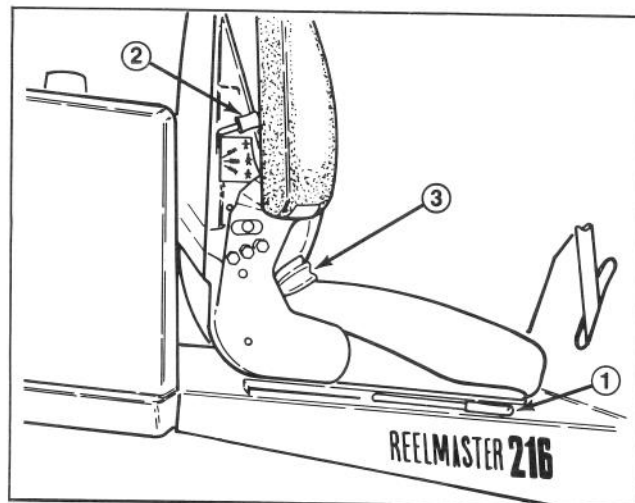

Figure 26
**Deluxe Seat Adjustments** (Fig. 26) — Weight Adjustment — Push lever up or down to adjust to